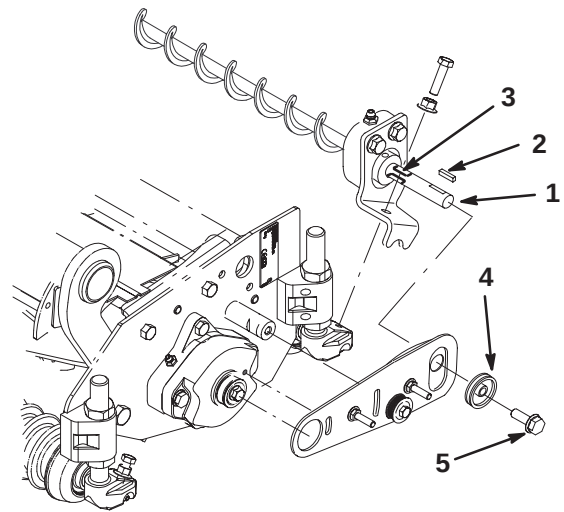

Figure 11
20. Insert square key into keyway on roller brush shaft (Fig. 11).
21. Slide pulley onto key and end of roller brush shaft (Fig. 11).
22. Apply 242–Lockite (blue) to threads of 5/16–18 x 5/8" lg. flange bolt. Secure pulley to shaft with bolt and torque to 15 to 19 ft.-lbs. (1/2" wrench) (Fig. 11).